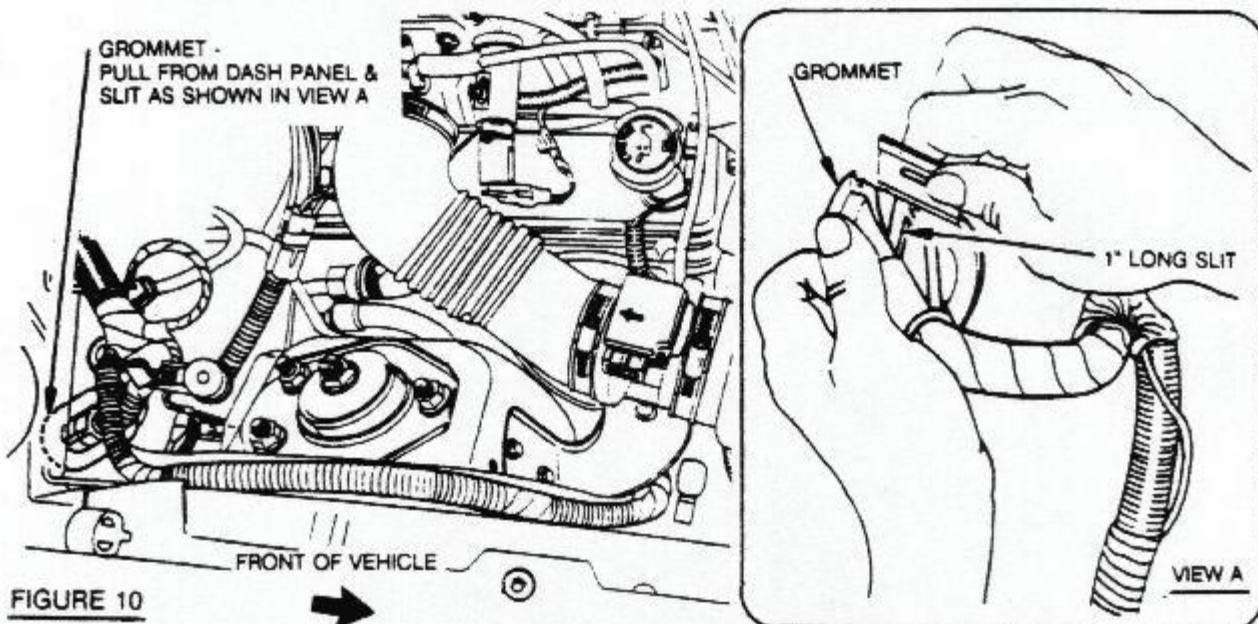

FIGURE 10
STEP 13 Back in the engine compartment, Carefully loosen the existing wiring harness grommet from the dash panel by pulling gently on the harness. Slit the grommet with a sharp knife or other tool, being sure not to cut any wires. See figure 10.